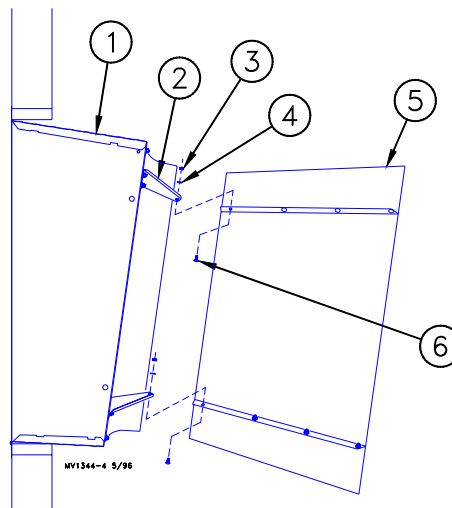

Figure 14. Cone Installation (side view).
Secure the Cone Assembly to the Cone Hanger Brackets using (1) 5/16-18 carriage bolt, 3/8" lock washer, and 5/16-18 hex nut. See **Figure 14**.